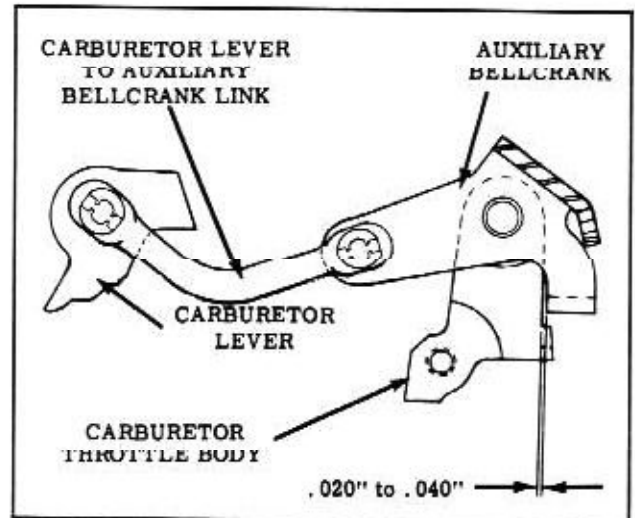
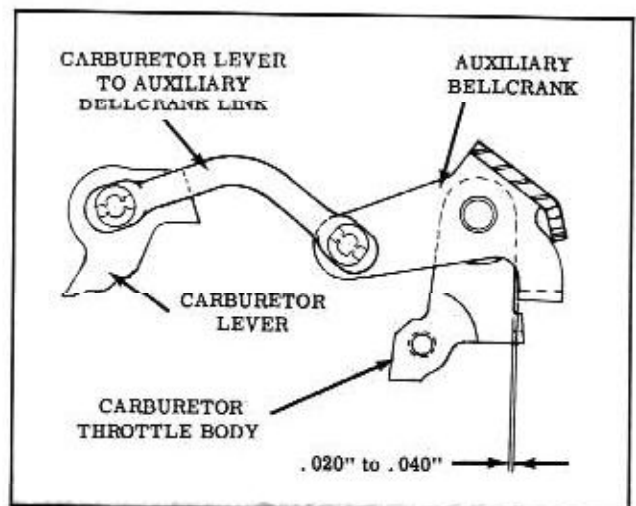

Fig. 8-120 Checking 4GC Carburetor Link (HMT)
Fig. 8-121 Checking 4GC Carburetor Link (SMT)
- a. Measure clearance as shown in Fig. 8-120 (Hydra Matic) or Fig. 8-121 (Synchro-Mesh) with feeler gauge. To obtain proper clearance of .020"-.040" remove carburetor lever to auxiliary bellcrank link and bend. Reinstall link and recheck clearance. Link can be installed up or down.